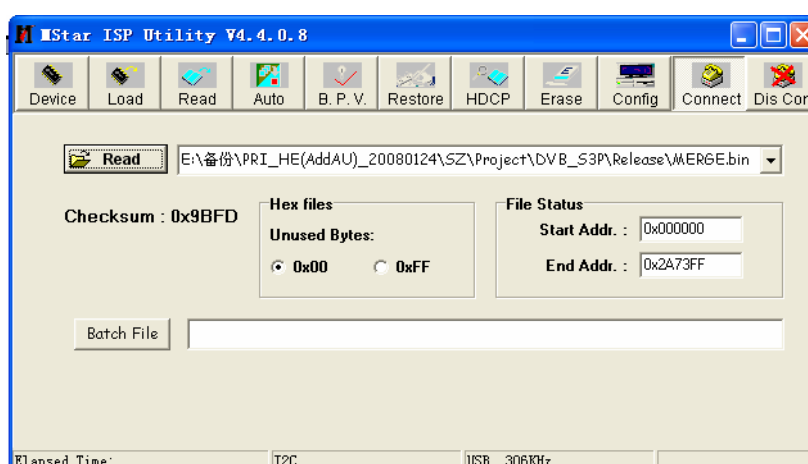

Fig. 4 Burning file selection
- 4) Press menu “**Read**”, select the burning file, such as “**MERGE.bin**”, please refer to Fig. 4